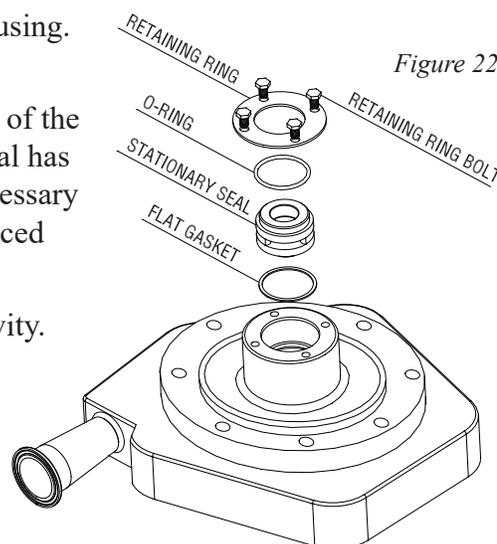

Figure 22
- i) Loosen the adapter bolt (51) with the 3/4" wrenches until it is loose in the flange adapter (50). (Note: the adapter bolt does not have to be removed.) Now carefully slide the pump housing off the pump shaft (17), ensuring that the stationary seal (which is mounted inside the pump housing) does not contact the pump shaft. The stationary seal may be damaged if it makes hard contact with the pump shaft.
- j) Place the pump housing (36) face down on the housing bolts (49).
- k) Loosen the four retaining ring bolts (31) with the 7/16" wrench and remove them from the hub of the pump housing. Remove the seal retaining ring (32).
- l) Place a finger through the stationary seal and pull it out of the seal cavity and discard (**Figure 22**). If the stationary seal has been in the pump for an extended period, it may be necessary to softly tap it out from the opposite end using a soft-faced hammer.
- m) Check the flat gasket (35) in the bottom of the rear cavity. Remove this gasket completely and clean the seal cavity if necessary.